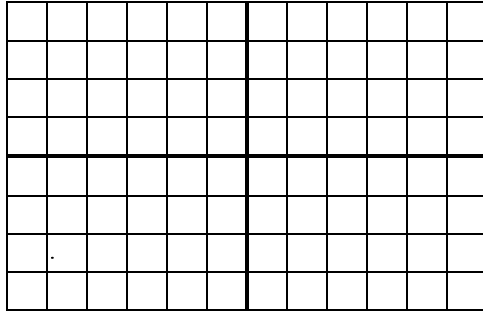

Figure 4.4a
5. On the graphs of figure 4.4a and 4.4b sketch the input voltage,  $V_{in}$  and the output voltage  $V_{out}$  respectively. Also note the vertical and horizontal sensitivity.